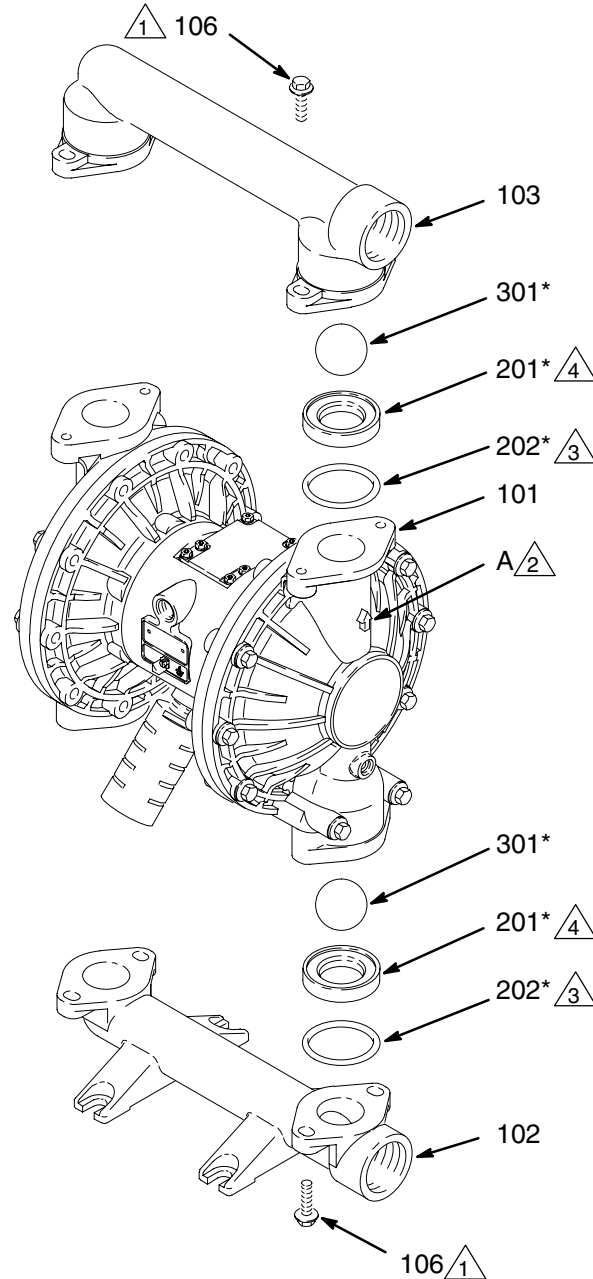

Fig. 10
3. Using a 13 mm socket wrench, remove the four bolts (106) holding the outlet manifold (103) to the fluid covers (101). See Fig. 10.
4. Remove the o-rings (202, *not used on some models*), seats (201), and balls (301) from the manifold.
5. Turn the pump over and remove the inlet manifold (102). Remove the o-rings (202, *not used on some models*), seats (201), and balls (301) from the fluid covers (101).
2. Reassemble in the reverse order, following all notes in Fig. 10. Be sure the ball checks are assembled **exactly** as shown. The arrows (A) on the fluid covers (101) **must** point toward the outlet manifold (103).
-  2 Arrow (A) must point toward outlet manifold (103).
-  4 Beveled seating surface must face ball (301).